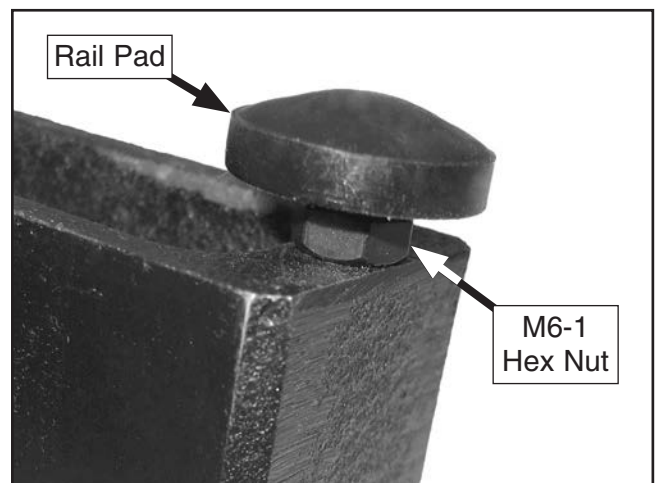

Figure 13. Installed rail pad on back end of fence.
16. Thread the M6-1 hex nut onto the rail pad, then thread the rail pad into the underside of the back end of the fence (see **Figure 13**).